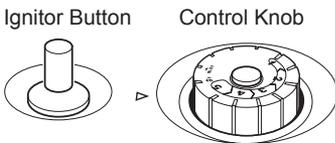

Figure 19 - Control Knob In The OFF Position (Piezo Ignitor Shown)
- Turn control knob counterclockwise  to the PILOT position. Press in control knob for five (5) seconds (see Figure 19).
- With control knob pressed in, push down and release ignitor button (see Figure 19). This will light pilot. The pilot is attached to the front of burner. The pilot can be seen through the glass panel. If needed, keep pressing ignitor button until pilot lights.